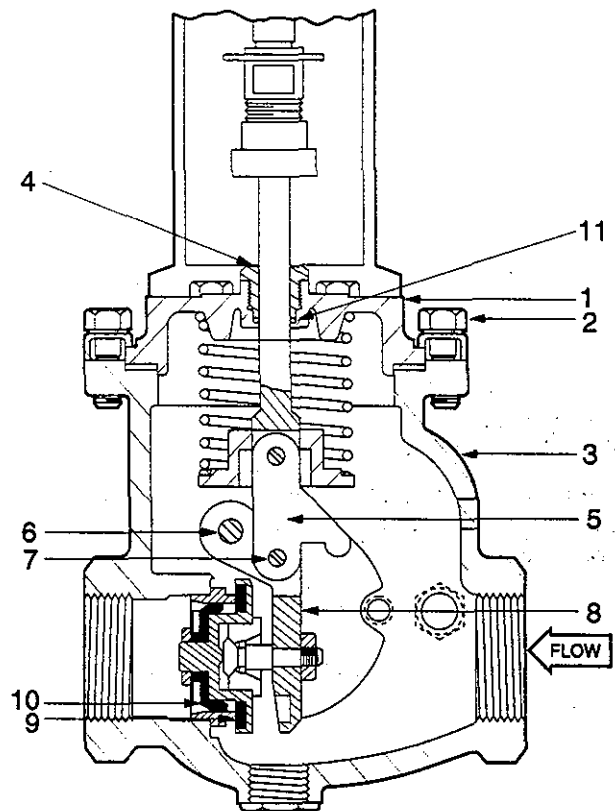

Figure 6. Cross-section of Typical H137 Valve With Valve Overtravel Seal
A yoke-mounted valve seal overtravel interlock switch permits automatic control and supervision of the valve's closed position and can be wired into the start-up or preignition interlock circuit. Switch must be used in combination with V764 Series gas valves with valve seal overtravel (see Figure 6). The switch is precisely set at the factory and is not field adjustable.
3. Remove four hex cap screws holding actuator to valve bonnet (1) (see Figure 6).
4. Remove packing bushing (4, Figure 6). Stem packing ring (11) is now accessible.
6. Replace packing ring (11). Turn bushing (4) down snug.
2. Remove plug (5) or side access plate to remove lever shaft (6) (see Figure 6).
3. Energize actuator, lift valve linkage (5) so lever shaft (6) may be removed. Push shaft (6) through valve, or pull lever shaft out of valve with 10-32 screw threaded into end of shaft. Remove lever (8) and seat disc assembly (9) and (10).
- Loosen packing bushing (4), (See Figure 6). Loosen set screws in stem nut and remove stem nut.
- Remove hex cap screws (2), (See Figure 6) connecting bonnet (1) to valve body (3) and lift connected parts out of valve body. Replace or clean necessary parts.